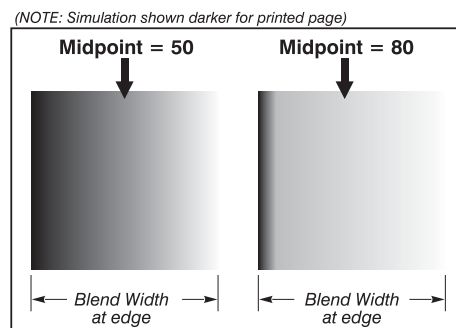

Figure 3.36. “Midpoint” Examples
- ❑ **Blend Midpoint** determines the white level at the blend midpoint (the point equidistant between the beginning and end of the blend). Increasing the *Blend Midpoint* setting creates a blend that appears brighter than the rest of the image. Decreasing the *Blend Midpoint* setting creates a blend that is darker than the rest of the image. A setting of 50 means the midpoint is approximately 50% black—for best results in most applications, keep fairly close to this default (see Figure 3.36).